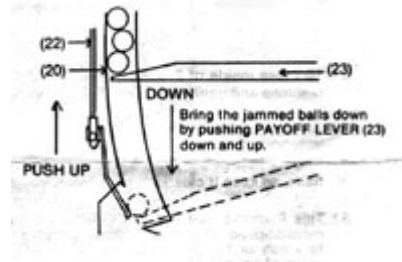

Figure 4
2. If balls will not stay in the rear of the machine, slide the tab on the Ball Dump Lever (18) to the right. See Figure 4. To lock slide Ball Dump Lever (18) to the right. Unlock position empties balls into Storage Bucket (17).
3. To Clean inside of Plastic or Glass Window Door (5), lift up Locking Lever (16) at the rear side of machine and gently open the Plastic or Glass Window Door (5).
4. To open Lower Front Cover (4), push down Lock Tab (2), which is located behind Plastic of Glass Window Door (5). Pull hinged Lower Front Cover (4) forward towards you to clean and inspect flow of balls to Trip Lever (7). This inner ball track is easily clogged by rug fuzz and dog hairs so keep it clear to insure trouble free service.